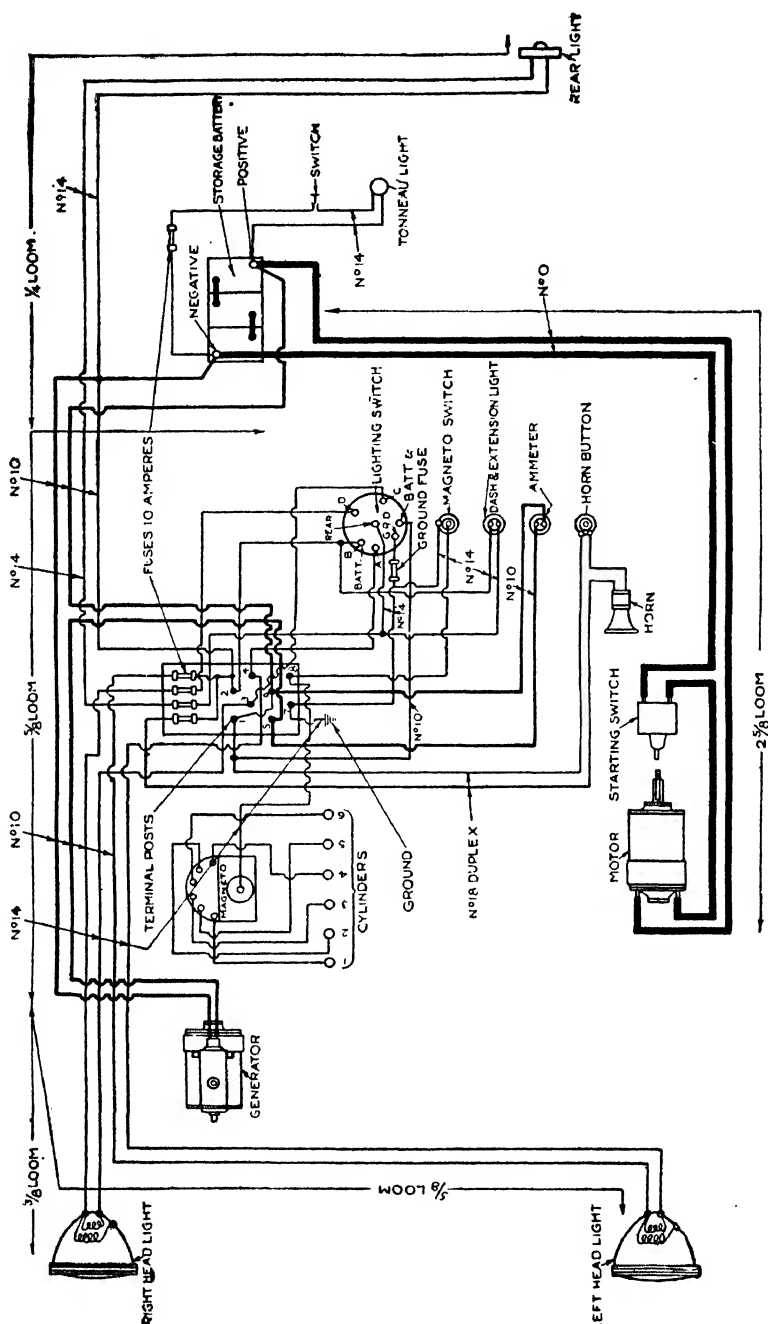

Fig. 210. Wiring Diagram for Bijur Two-Wire System on the Jeffery Chesterfield Six (1916 Model)
**Jeffery-Bijur Type.** The two-wire system of the Bijur as installed on the Jeffery Chesterfield Six is shown in Fig. 210. All lighting circuits are fused and there is also a fuse in the ground connection for the ignition. The numbers referring to the various circuits indicate the proper size of wire used in each circuit. This is an important item in every starting and lighting system, as, where any wires have to be replaced owing to mechanical or electrical injury, they must always be replaced with wire of the same size and character of insulation, as otherwise, further and more serious trouble is apt to follow. Thus, for the starting circuit No. 0 (Brown & Sharpe gage) cable is employed; for the charging circuit between the generator and battery No. 10; for the lighting circuits No. 14, which is the size ordinarily employed for incandescent-lamp circuits in house wiring; and for the horn No. 18. "Duplex" in this connection means that both wires of the circuit are enclosed in the same braided insulation. "Loom" is tubular fireproof insulation through which the wires are passed to afford further protection, and the sizes vary in accordance with the size of the wires.